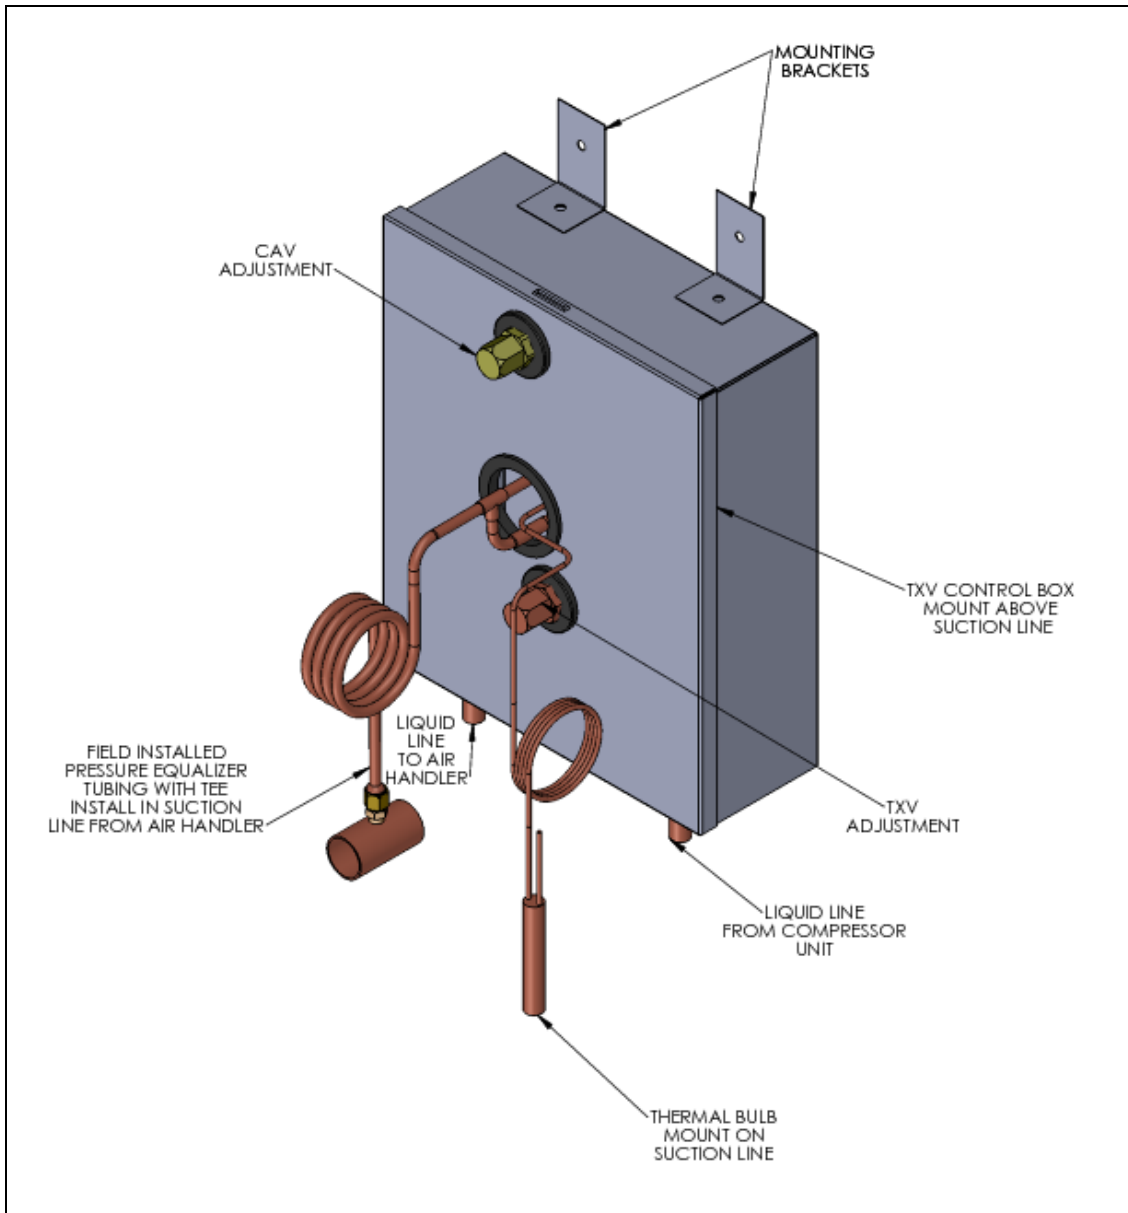

Figure 3. TXV Control
Figure 3 illustrates the TXV Kit as shipped with the external parts for field installation identified. In Figure 3, the pressure equalizer tubing and suction line Tee are shown connected to the control box for illustration purposes. These parts are shipped with the TXV control box and are field assembled to the control box and to the suction line. The TXV (thermal expansion valve), CAV (cooling assist valve) and interconnecting tubing are located inside the control box to ensure performance.
Step 5: Measure and cut copper tubing to connect the liquid line from the TXV control box to the liquid line stub out on the air handler as shown in Figures 3 and 9. Run the other liquid line from the connection on the TXV control box to the compressor unit, also shown in Figures 3 and 9. Nitrogen braze the joints.